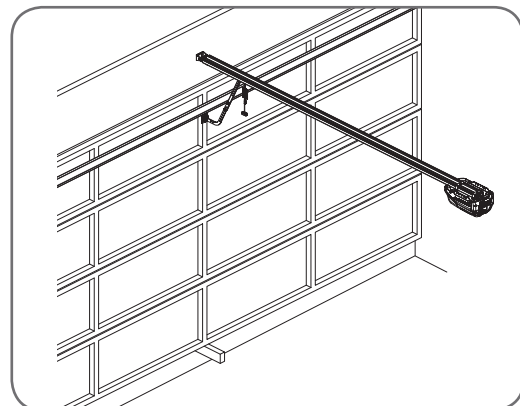

Fig. 29
- Place a piece of timber approximately 40mm high on the floor directly under the door (**Fig 29**).